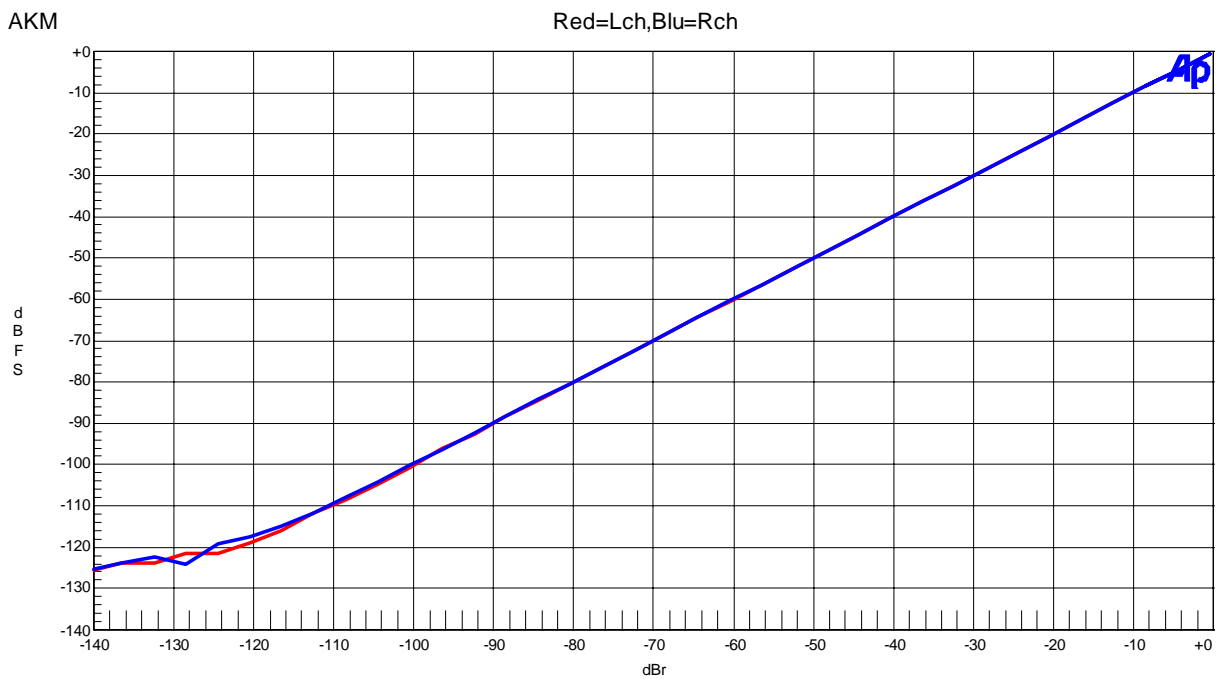

Figure 14. Linearity (Input Frequency=1kHz)
- Figure 14. Cross-talk (Input Level=-0.5dBFS)